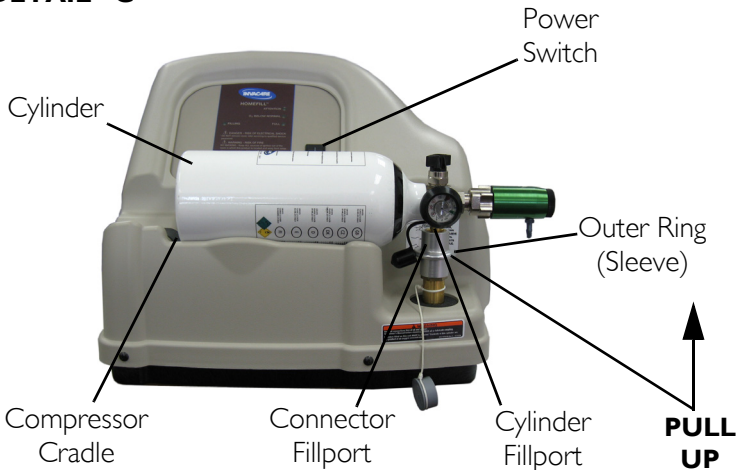

FIGURE 4.4 Connecting the Cylinder to the Compressor
6. Grasp the cylinder assembly as shown in Detail "A" in FIGURE 4.4.
7. Position the cylinder in the compressor cradle as shown in Detail "C" in FIGURE 4.4.
8. Align the cylinder fillport with the connector fillport as shown in Detail "C" in FIGURE 4.4.
9. Pull UP on the outer ring (sleeve) of the connector fillport (Detail "B") while pushing DOWN on the cylinder assembly to couple the cylinder fillport into the connector fillport as shown in Detail "B" in FIGURE 4.4.